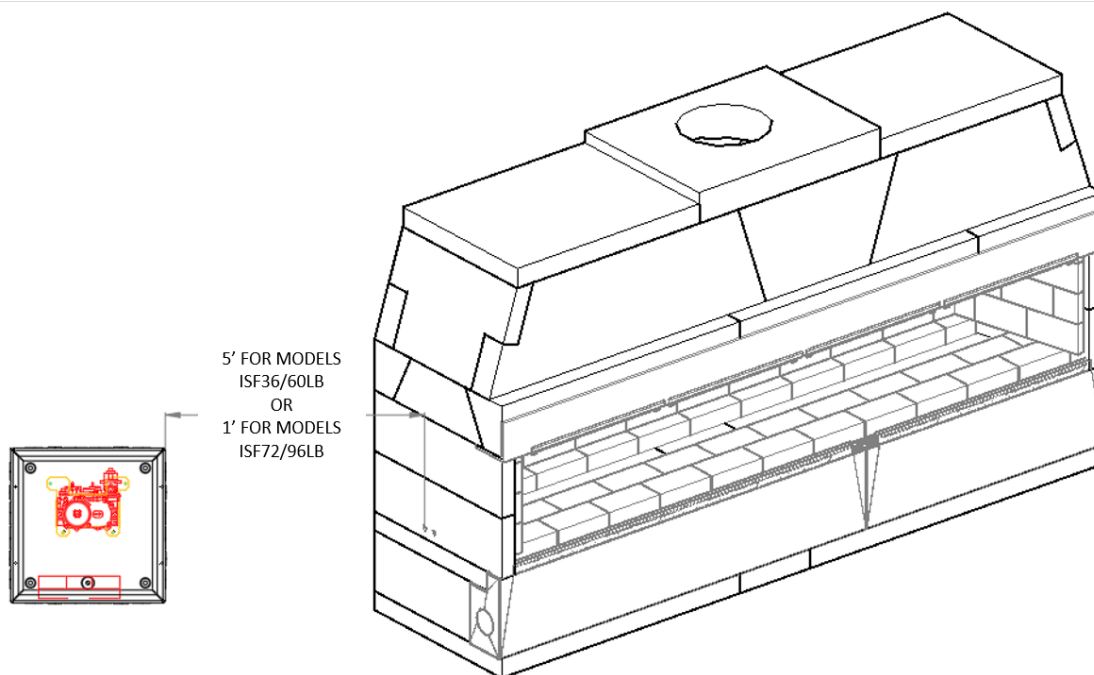

FIGURE 58
1) The valve control box comes with an 84" pilot assembly lead; therefore, the box must be mounted within 5' of the fireplace for models ISF36/60LB and within 1' for models ISF72/96LB. **(Figure 58)**